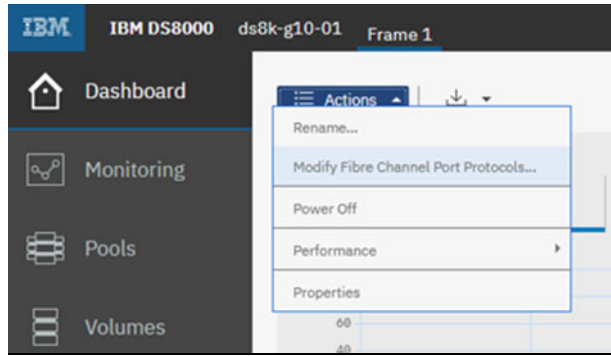

Figure 9-8 Quick way to modify the fiber adapter port protocols
- ▶ A quick way to perform this action is by clicking **Actions** on the Dashboard window and selecting **Modify Fibre Channel Port Protocols**, as shown in Figure 9-8 on page 228.